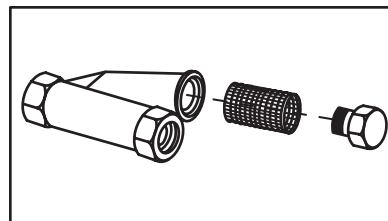

Figure 13
4. From the outside bottom of tank, disconnect the heater wires and remove the retaining nuts. (See Fig 13 for the rear view of the machine).